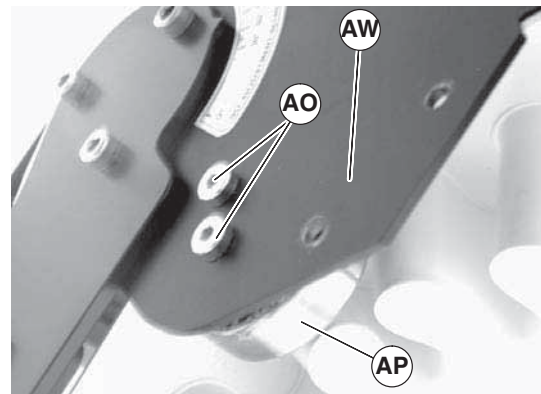

Figure 33
- Install knuckle guard (Figure 33, item AN) on both sides of knuckle with screws (AM). Tighten screws to 25 in-lbs (3 N-m).